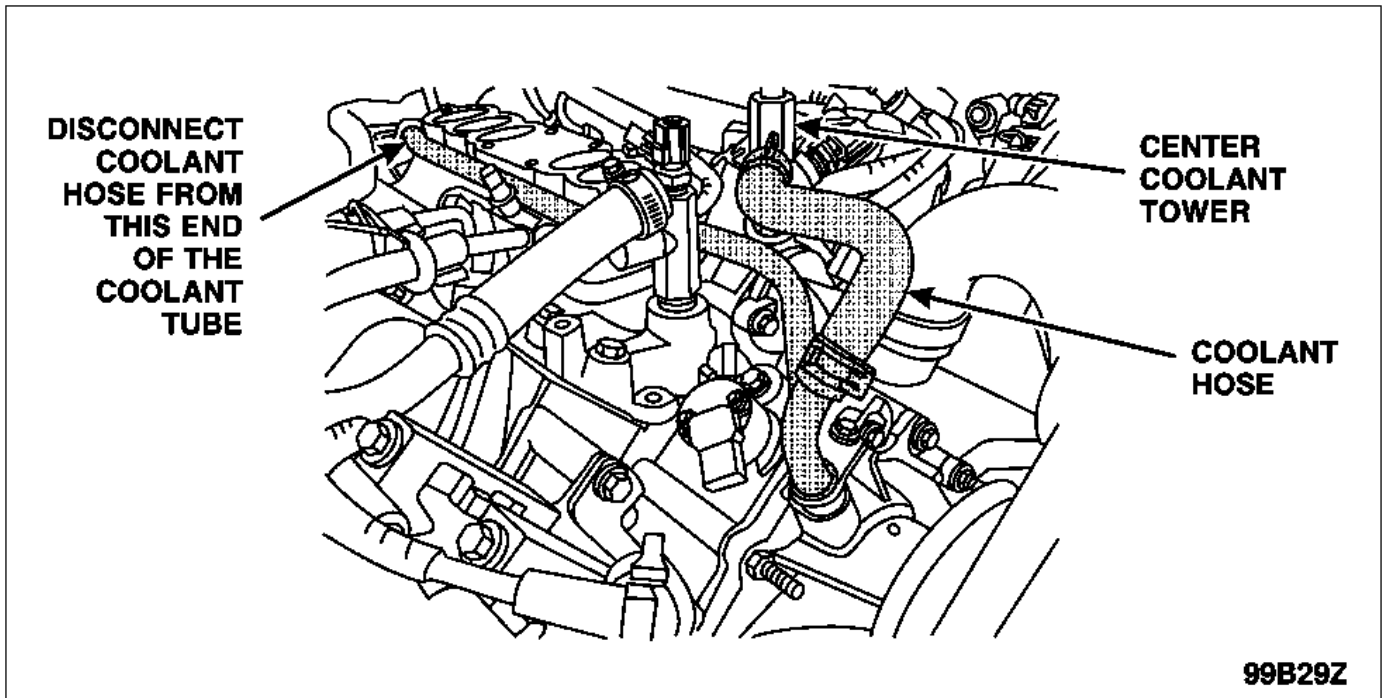

FIGURE 26
31. Disconnect the coolant hose from the center coolant tower. See Figure 26.
32. Disconnect the coolant hose from the bulkhead side of the coolant tube. See Figure 26.
33. Disconnect the coolant tube from the top of the water pump, then remove the coolant tube assembly from the vehicle. See Figure 26.